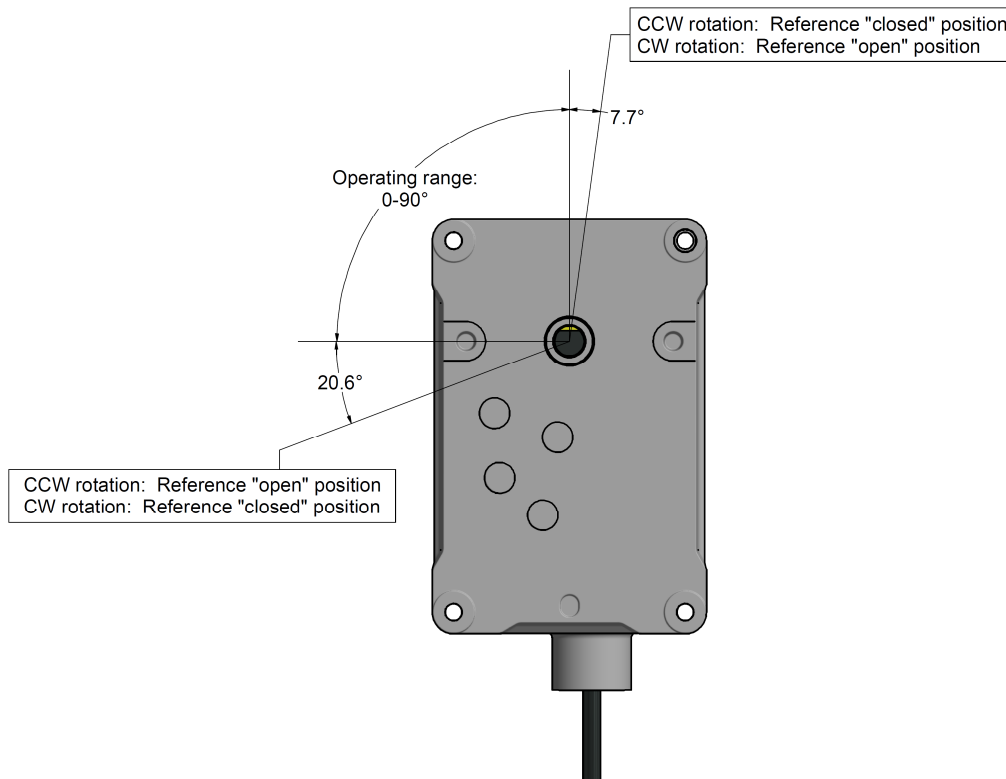

Figure 4-4: Referencing “Closed” vs. Referencing “Open”
7. Set the actuator reference direction. All SQM33... actuators have a range of motion from 0-90° during operation. However, before every startup, each actuator connected must rotate the shaft to either a position less than 0° or a position greater than 90° to reference the actuator shaft position. Rotating to a position less than 0° is called referencing on the “closed” side. Rotating to a position greater than 90° is called referencing on the “open” side. See Figure 4-4 for more details.